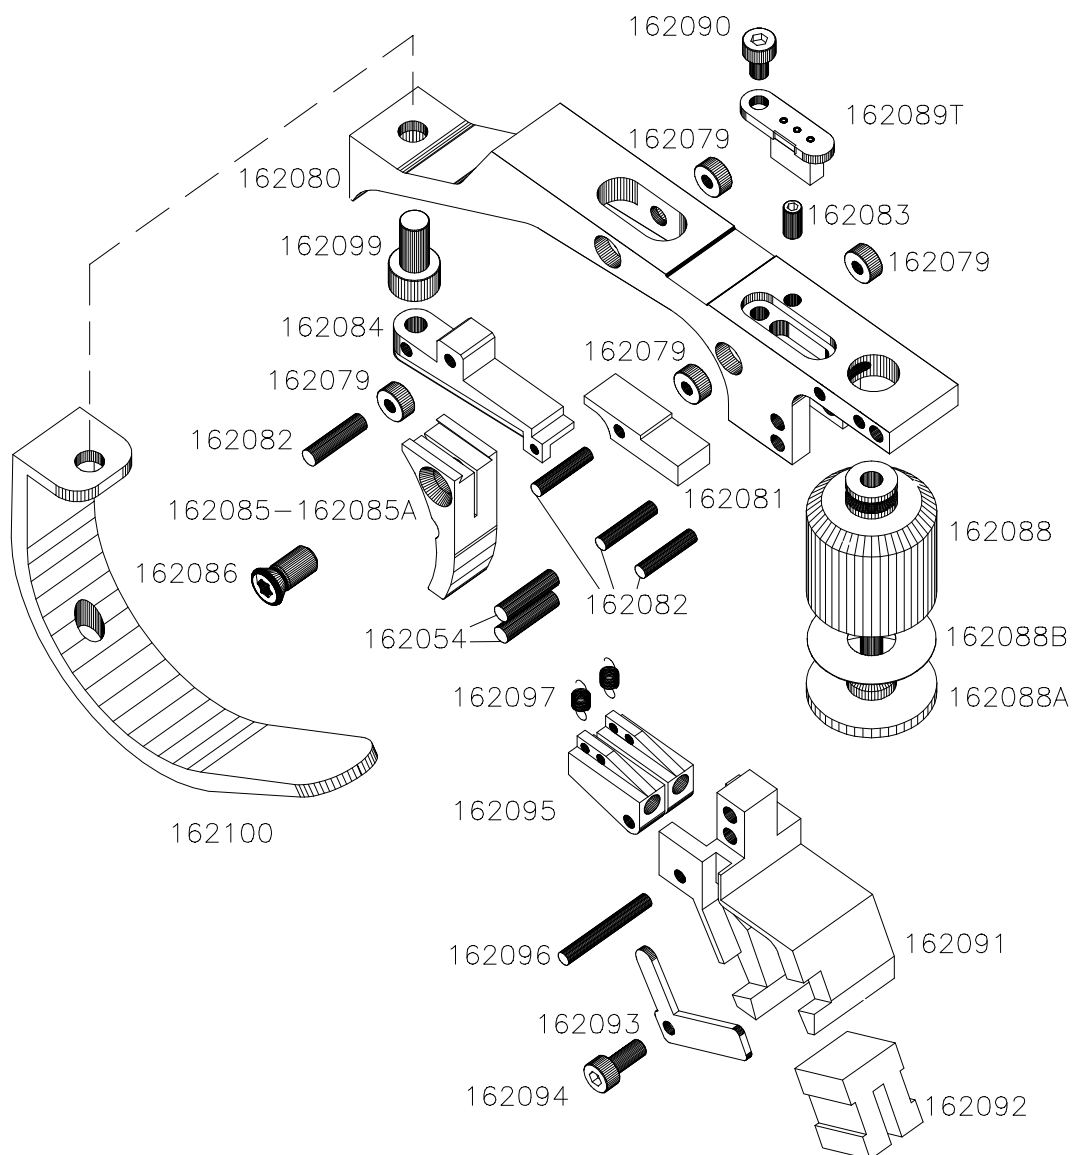

Fig. 1
1. Turning on the electronic (*Fig. 1*)